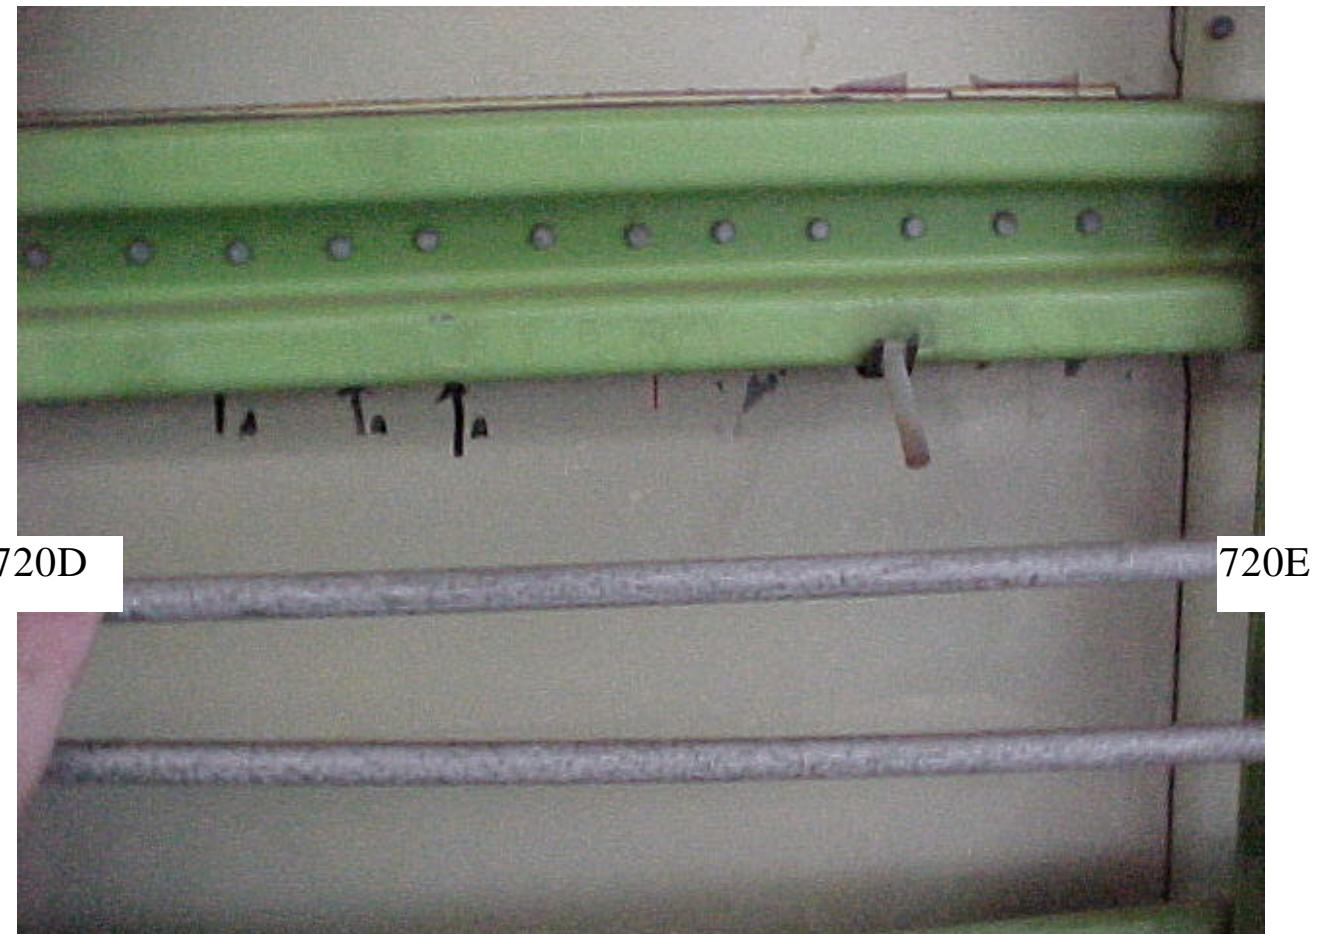

Figure C-17. Photograph of indication locations found during DVI and MFEC inspections. Stringer 4R, BS 720D to BS 720E.
- FIGURE C-17 Photograph of indication locations found during DVI and MFEC inspections.